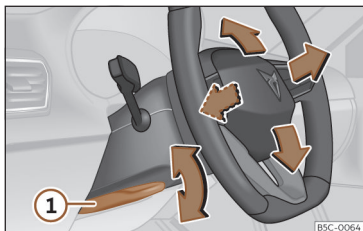

Fig. 93 Lever in the lower left side of the steering column.
- Pull lever >>> **Fig. 93** ① down, move the steering wheel to the desired position and lift the lever back up until it locks.
- After adjusting the steering column, push lever >>> **Fig. 93** ① firmly upwards so that the steering wheel does not accidentally change position while driving.